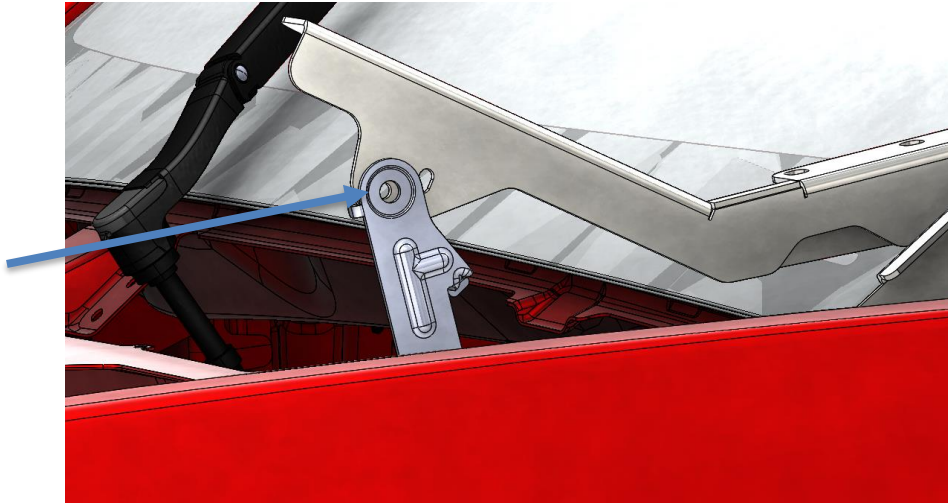

Fig 7
1. Bolt the hood spring assist arm to the Upper arm of the hood hinge using the factory bolt and included stainless steel flat washer and M8 Nylock nut as shown in Fig 7.